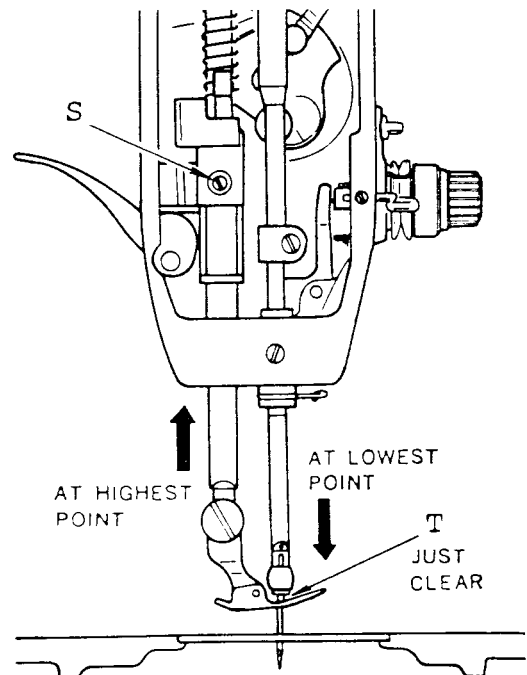

Fig. 9
2. When presser foot is at its highest point and needle bar at its lowest, top of presser foot should clear the lower end of needle bar, as shown at T, Fig. 9.